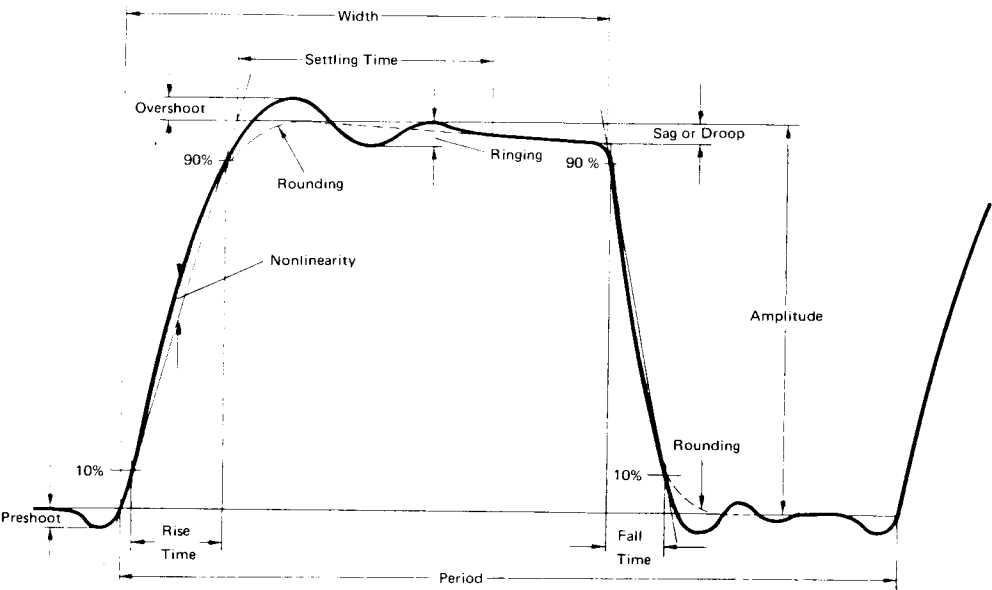

Figure 4–7. Pulse Parameters
- 4. Verify leading edge non-linearity (Figure 4–7) $< \pm 1\%$ of amplitude.